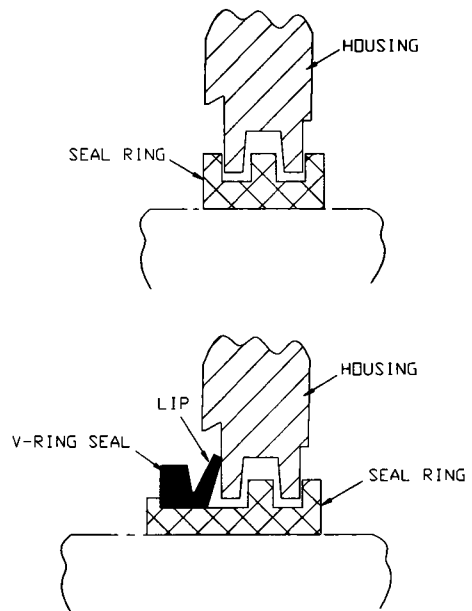

Figure 1
3. Install second seal ring onto the shaft with relation to housing as shown on Figure 1.